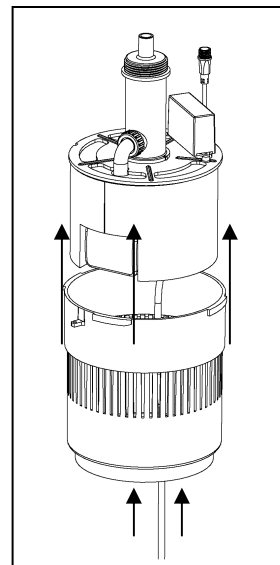

Fig. 8
5. Lift the pump and filter assembly up from the fountain. NOTE: In order to extract the filter assembly from the flotation basket, the main power cord must be fed up through the bottom of the flotation basket. Fig. 8